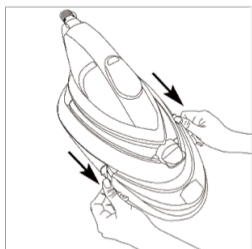

FIGURE 2
2. Pull out the water tank (Figure 2).